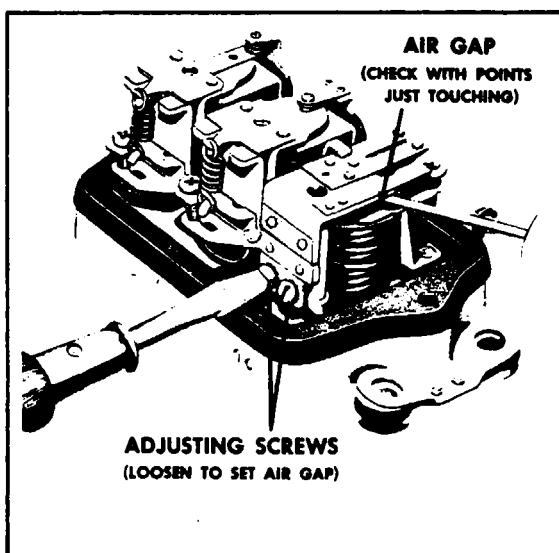

Figure 11-10. Cutout Relay Air Gap Check and Adjustments
a. **Air Gap:** Place fingers on armature directly above core and move armature down until points just close and then measure air gap between armature and center of core. (Refer to Figure 11-10.) On multiple contact point relays, make sure that all points close simultaneously. If they do not, bend spring finger so they do. To adjust air gap, loosen two screws at the back of relay and raise or lower the armature as required. Tighten screws after adjustment.